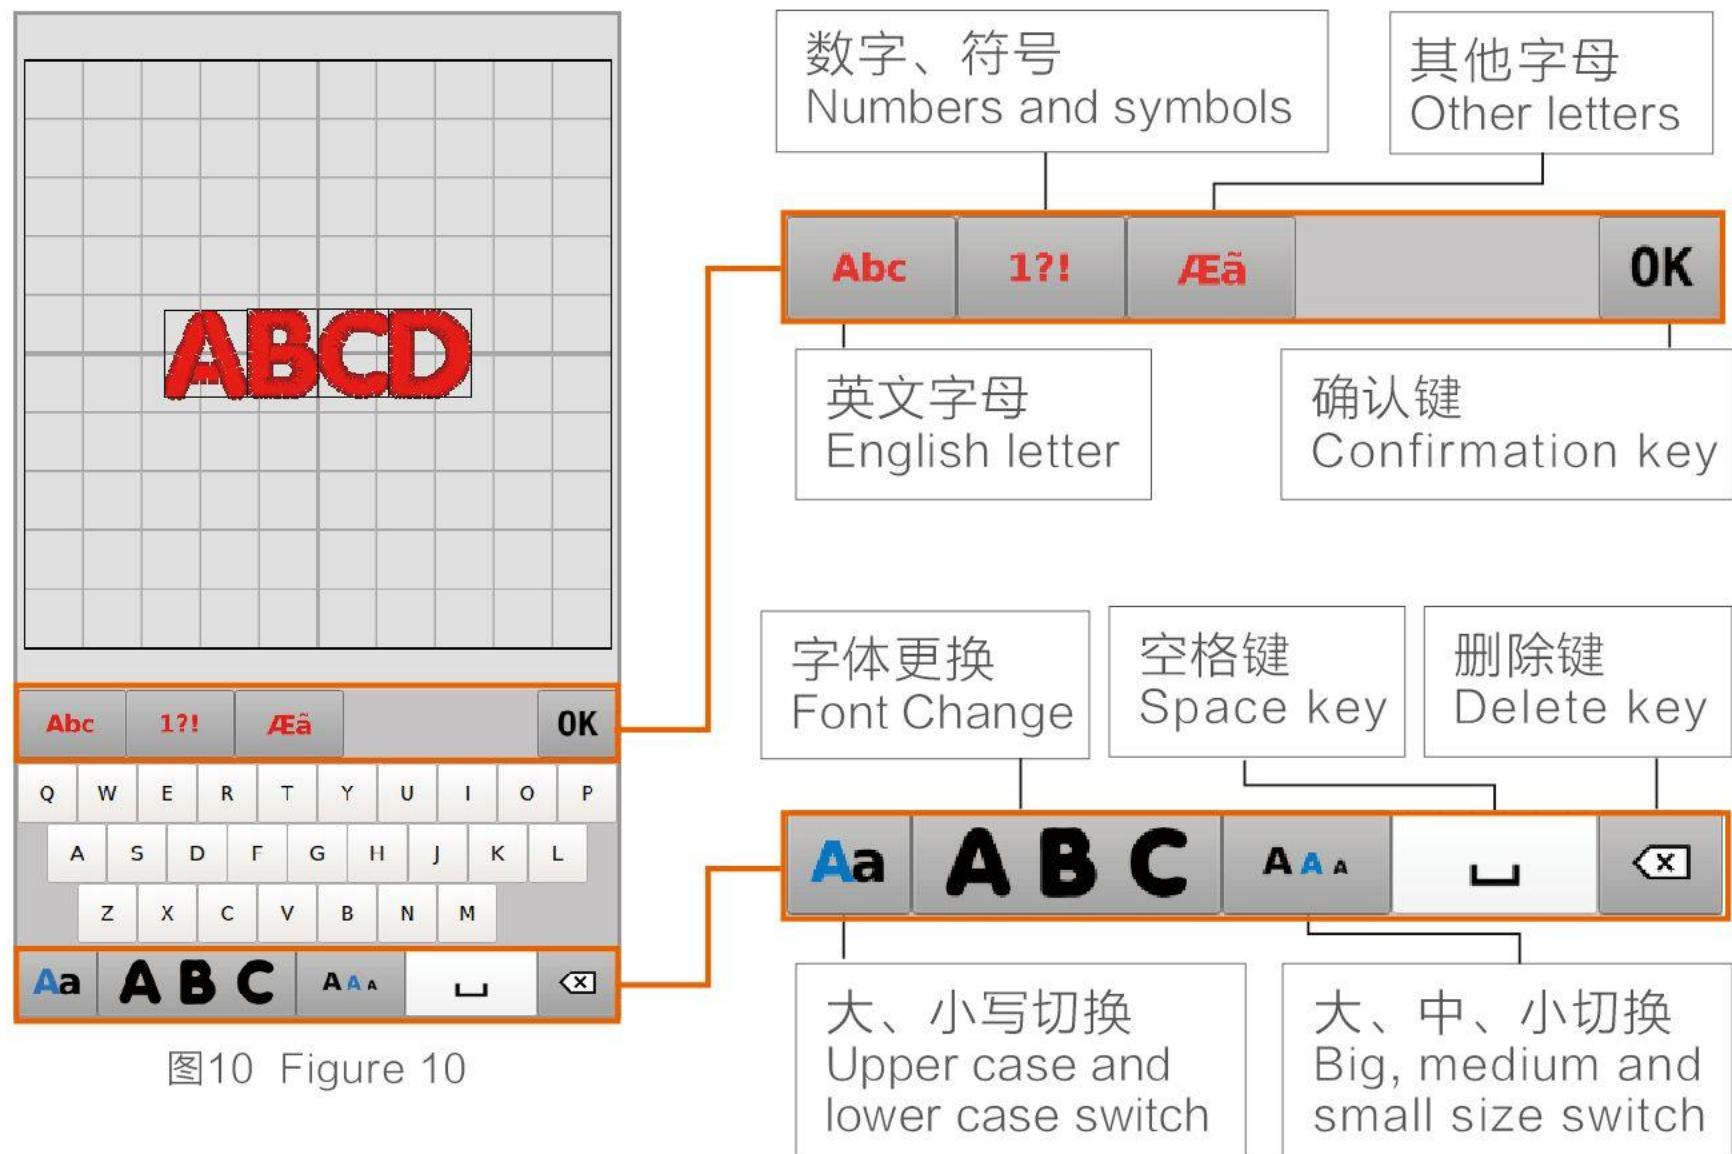

图10 Figure 10
② 点击八种字体的其中一个，进入图10界面，输入字母、数字、符号等，按确认
Click one of the eight fonts to enter the interface in Figure 10, enter letters, numbers, symbols, etc., and press confirmation.